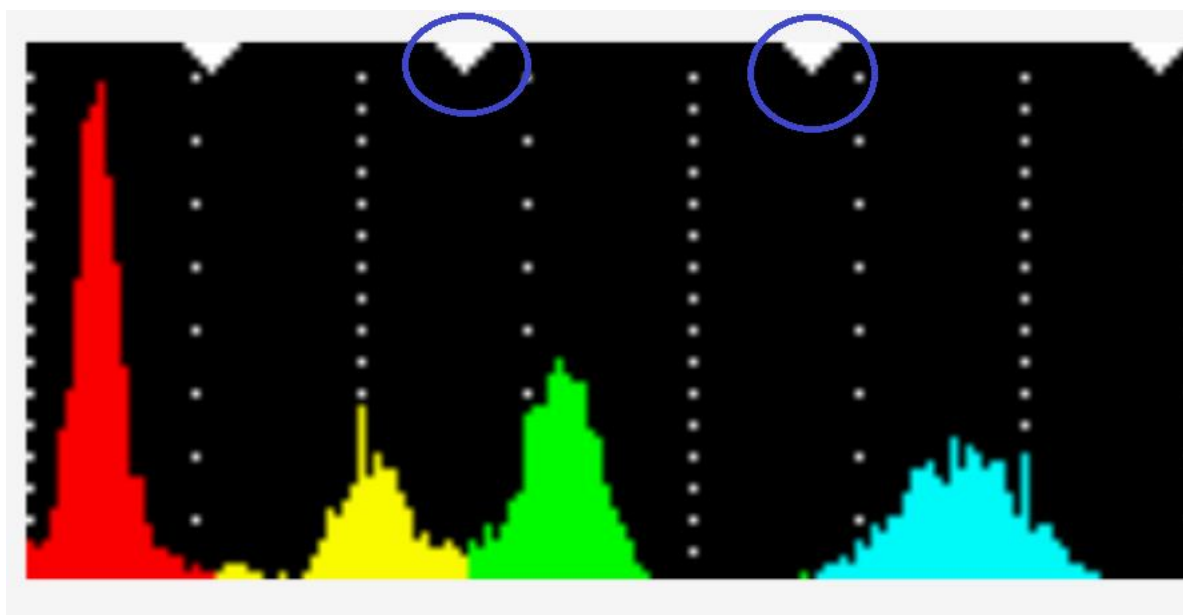

Figure 15: Color boundaries post adjustment, detail showing green border compensation targets.
- b. The green color has been found to have printing inconsistencies between different tag sizes even within the same book. The green peak may be squeezed up against the left or right neighboring color, and may shift this position from tag to tag. To compensate, move the green borders as close to their neighboring colors as possible. In the above image, there is a large gap between the green and cyan peaks with little to no detected pixels. Move the green/cyan (G/C) border all the way to right of this black area (to the area where the color pixels are detected) as shown in figure 15. Since the yellow and green peaks are smashed together, move the yellow/green (Y/G) transition into the low point between the two peaks. If there is black separation between green and both neighboring colors, set the (y/g) (g/c) borders just at the edge of the neighboring color detection, giving a wide black border on both sides to the green peak.;